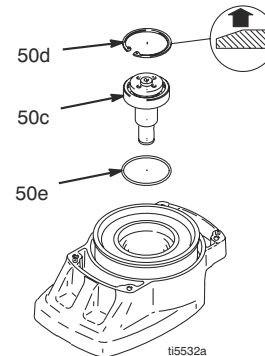

FIG. 5
7. FIG. 5. Remove retaining ring (50d).
7. FIG. 5. Tap pinion shaft (50c) in with plastic mallet.